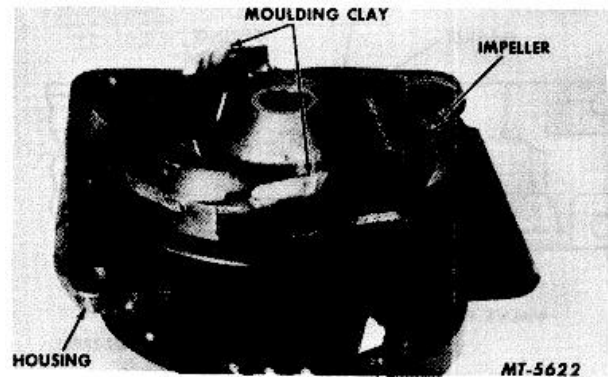

Fig. 148 Moulding Clay Mounted on Impeller Vanes to Check Impeller Clearance
1. Position suitable amount of moulding clay on two impeller vanes (Fig. 148).